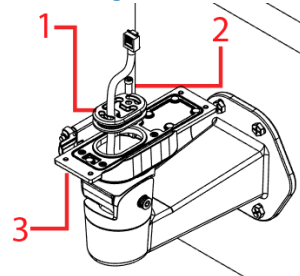

Figure 3
- Insert the Ethernet cable through the waterproof rubber (1) (Figure 3) and if not using both grommet holes insert the rubber pin (2) (Figure 3) into the waterproof rubber.
- Insert the waterproof rubber onto the mounting arm plate. (3) (Figure 3).